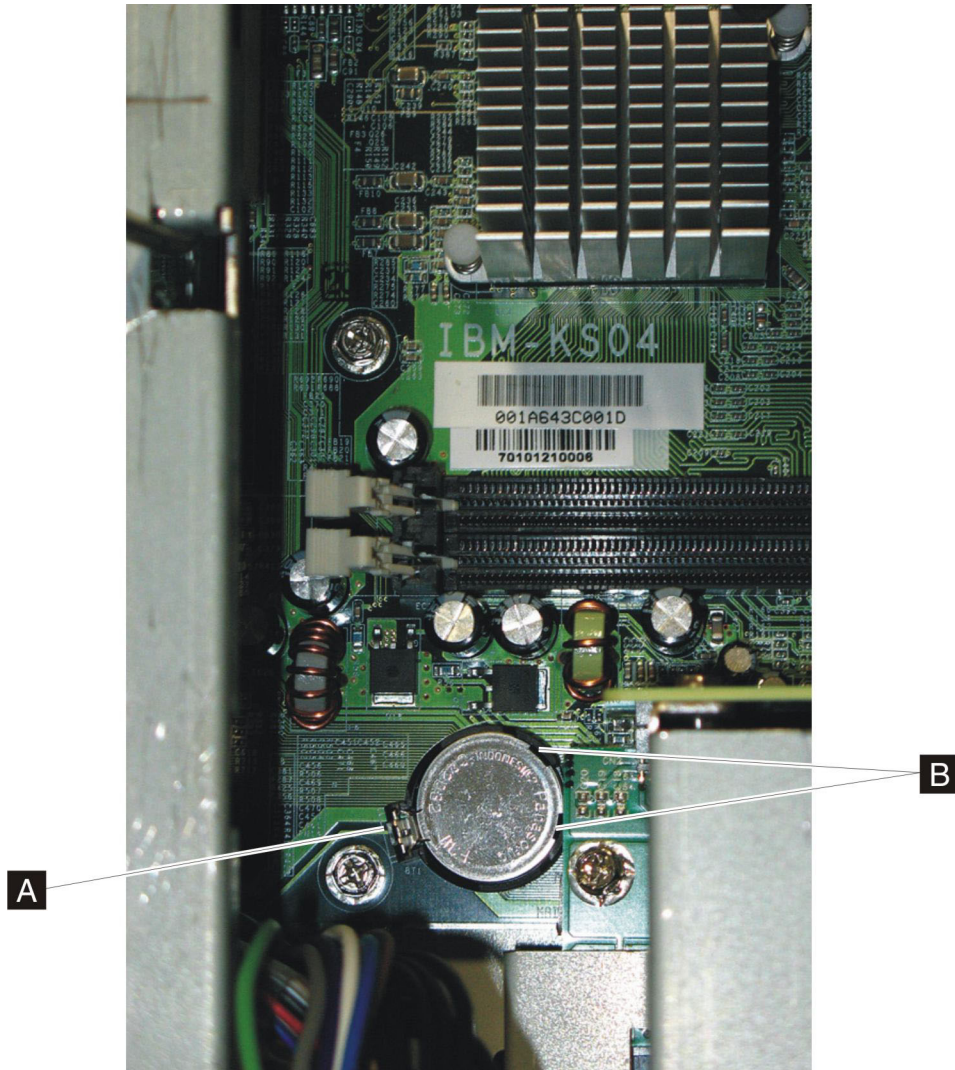

Figure 39. Removing the system board battery (Models xx3)
2. Carefully press down on the battery release button (**A** in Figure 39 on page 54, toward the front of the system board). The battery will lever up out of the socket.